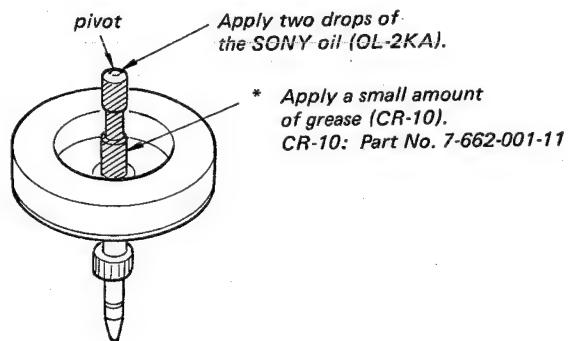

Fig. 2-14.
1. When the motor shaft is replaced, apply two drops of the SONY oil (OL-2KA) in the pivot and apply grease to the parts marked by \* in Fig. 2-14.